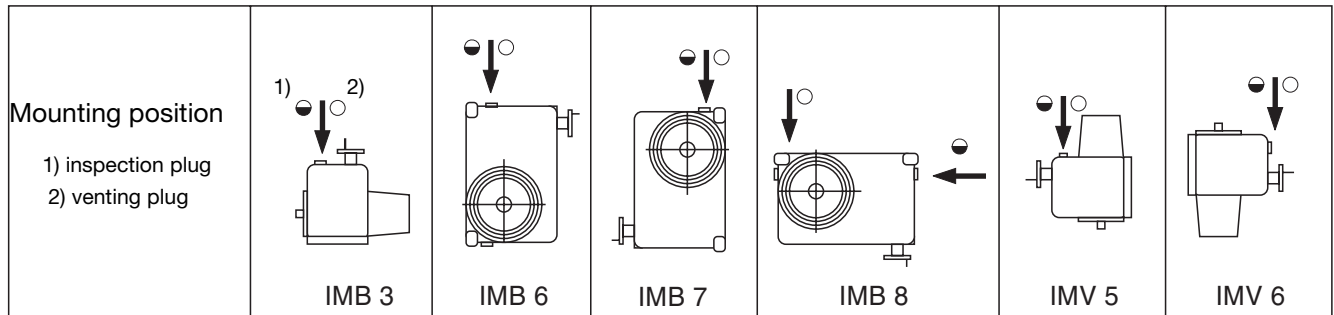

Fig. 3: Mounting Position RHD4000; ¹⁾ = inspection screw, ²⁾ = venting screw
- open or undo the venting screw (fig. 3)